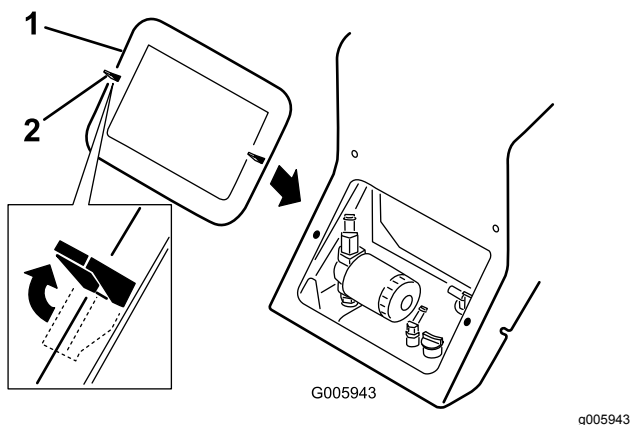

Figure 24
4. Release the 2 locking tabs (Figure 24, top, left tab illustrated).